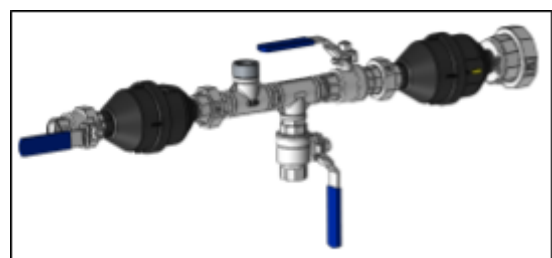

Figure 17.
- Connect the second water meter to the T-fitting, as shown in Figure 17.
- **Note:** Install the water meter with the dials facing up and the arrow pointing toward the mixing tank. See Figure 17.